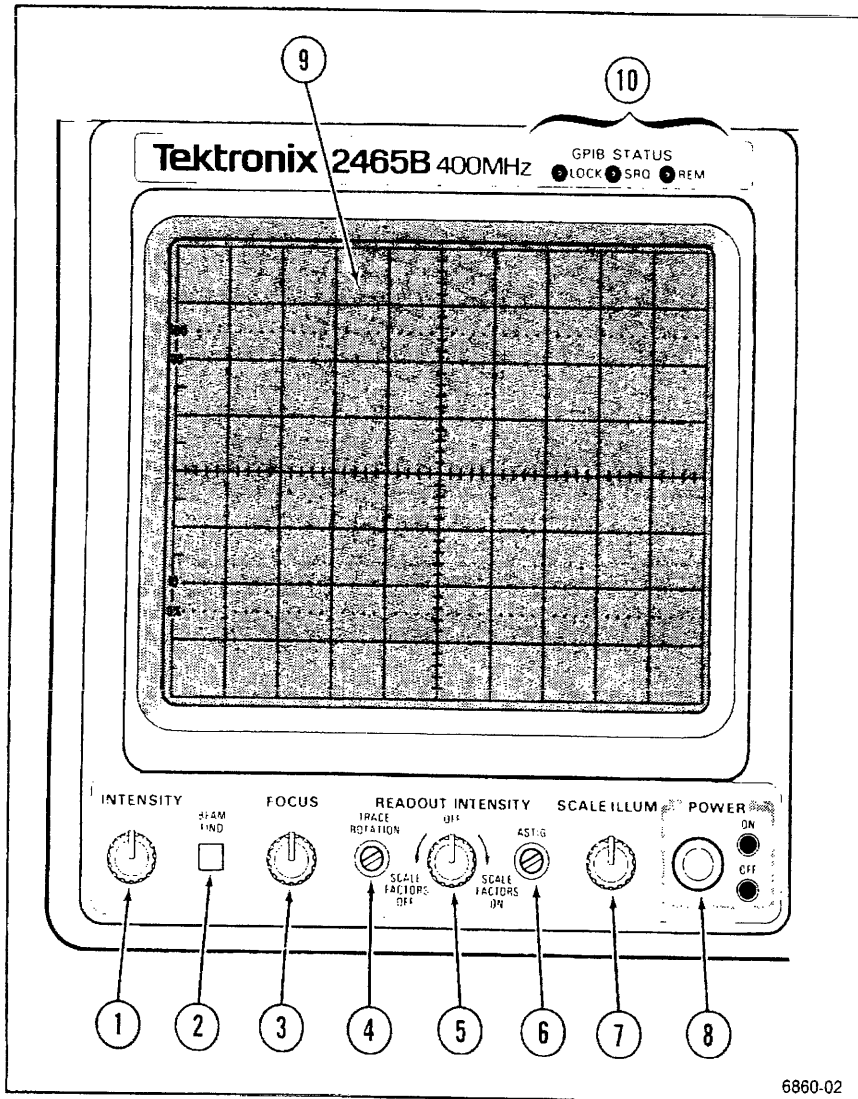

Figure 5-1. Power and display controls.
Refer to Figure 5-1 for the location of items 1 through 10.
- ① **INTENSITY Control** Adjusts the brightness of the waveform.
- ② **BEAM FIND Button** Limits the CRT deflection both vertically and horizontally to within the graticule. Display intensity is not affected by the BEAM FIND button.
- ③ **FOCUS Control** Adjusts the CRT writing beam for optimum display definition.
- ④ **TRACE ROTATION Control** Aligns the no-signal trace with the horizontal graticule lines. Relocating the instrument to a different magnetic ambient may result in slight misalignment of the trace and graticule, indicating a need to readjust the TRACE ROTATION control, using a screwdriver.
- ⑤ **READOUT INTENSITY Control** This control adjusts the intensity of the CRT readout display and will either enable or disable the display of scale factors. Digital measurements, Save/Recall readouts, the "50  $\Omega$  OVERLOAD" message, the available Counter/Timer/Trigger (CTT) menu, and the available Television/Video (TV) function indicators are always enabled.